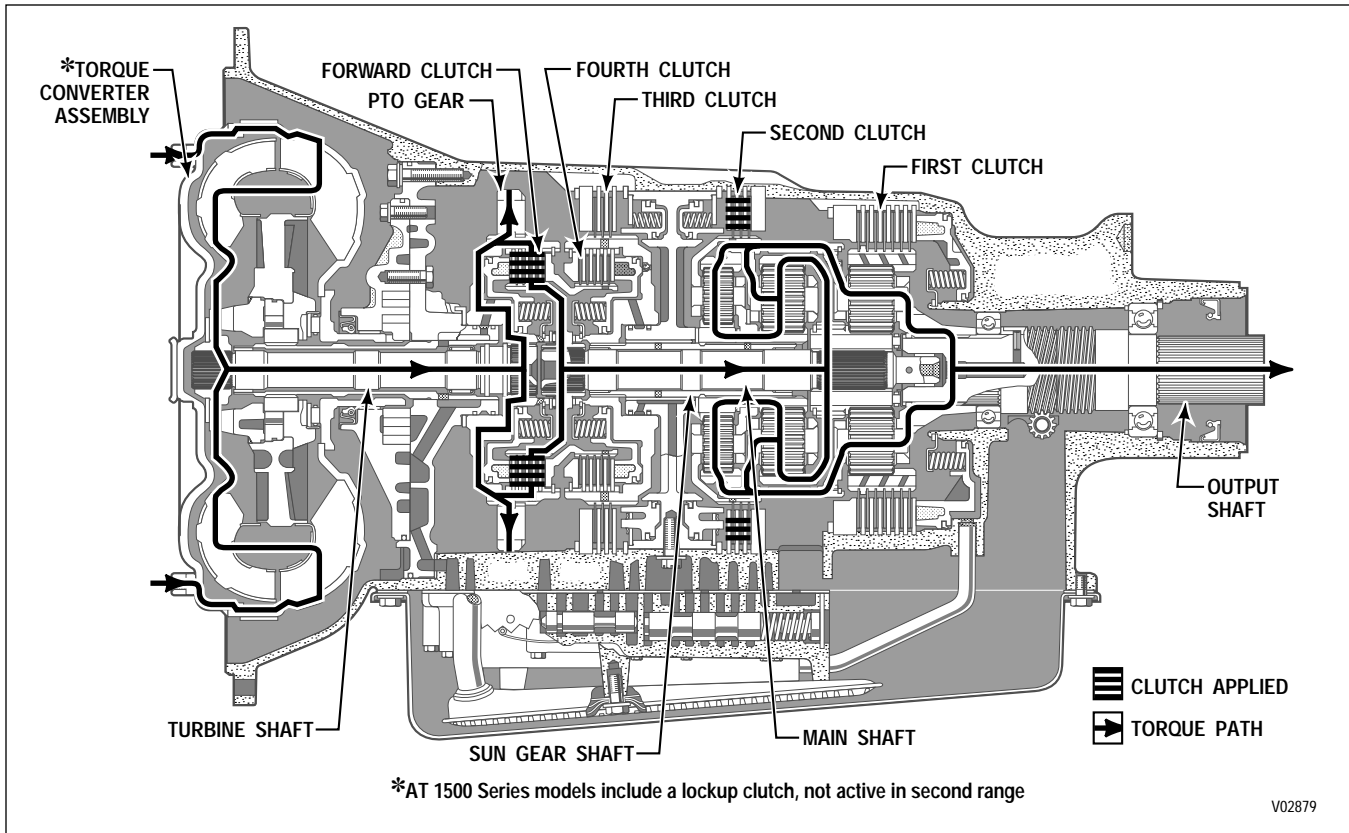

Figure 2-3. Second Range Power Flow
d. Second-Range Operation (Figure 2-3)
(1) The forward and the second clutches are applied. The second clutch application anchors the carrier of the front planetary carrier assembly against rotation. The forward clutch application locks the turbine shaft and main shaft together to rotate as a unit. The rear sun gear is splined to both the rotating main shaft and the center ring gear and all three parts rotate at turbine speed. With the carrier of the front planetary carrier assembly anchored against rotation, the rotating center ring gear rotates the center sun gear via the planetary pinions. This sun gear is splined to the sun